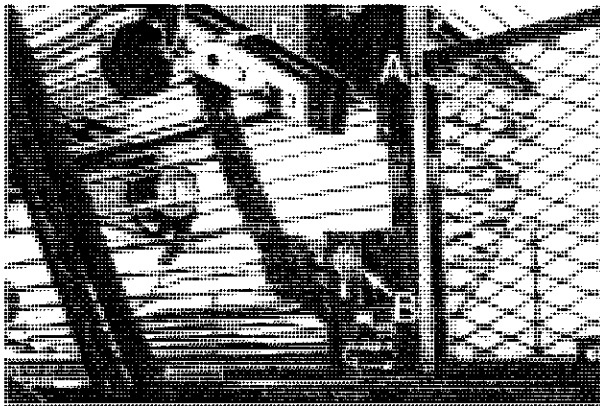

Figure 48. Tank Elevator Tension Adjustments.
Adjustments for the tank elevator draper chain are located at points A, B, and C in Figure 48. The idlers (B) can be set to position the chain as close as possible to the tank to help prevent beet loss. Ensure that adjustments are made identically on both sides of the draper chain.